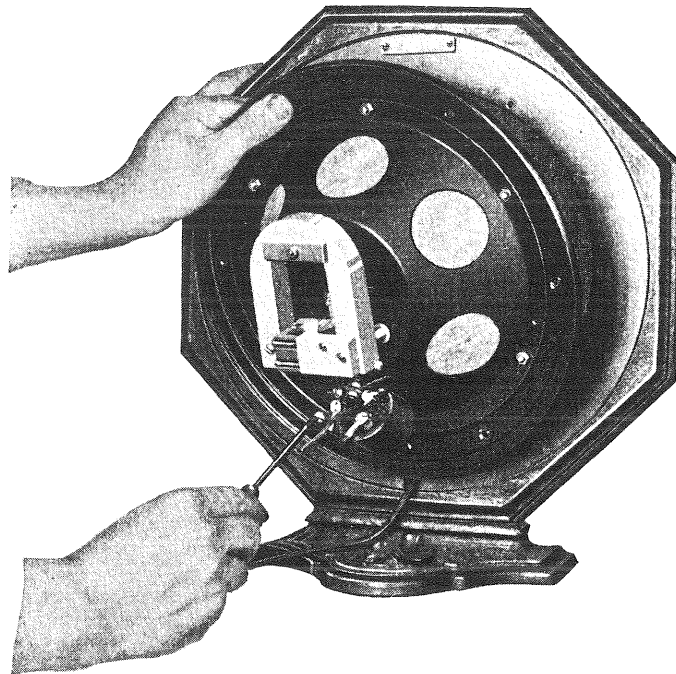

Figure 11—Removing reproducer assembly from baffle
- (b) Remove mechanism from baffle by removing the six machine screws that hold it to the baffle board (See Figure 11).